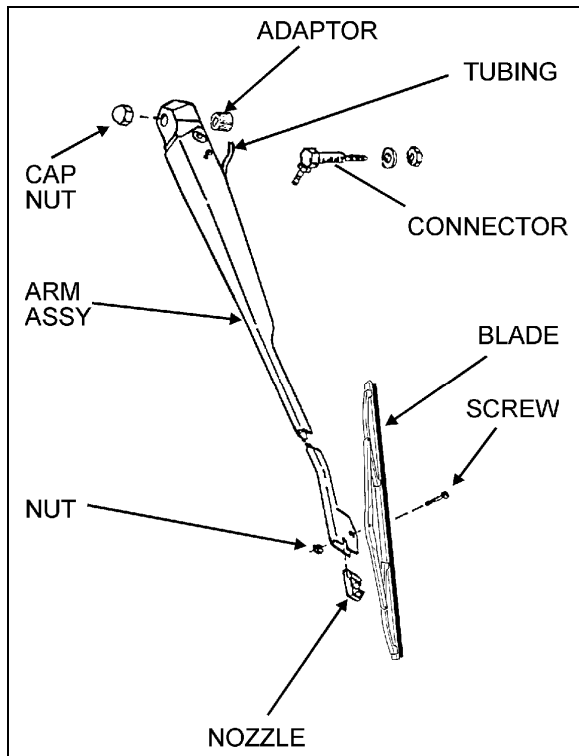

FIGURE 37: UPPER WINDSHIELD WIPER 23087
7. Loosen the bolt retaining the lever at the end of the motor driving shaft (Fig. 37).